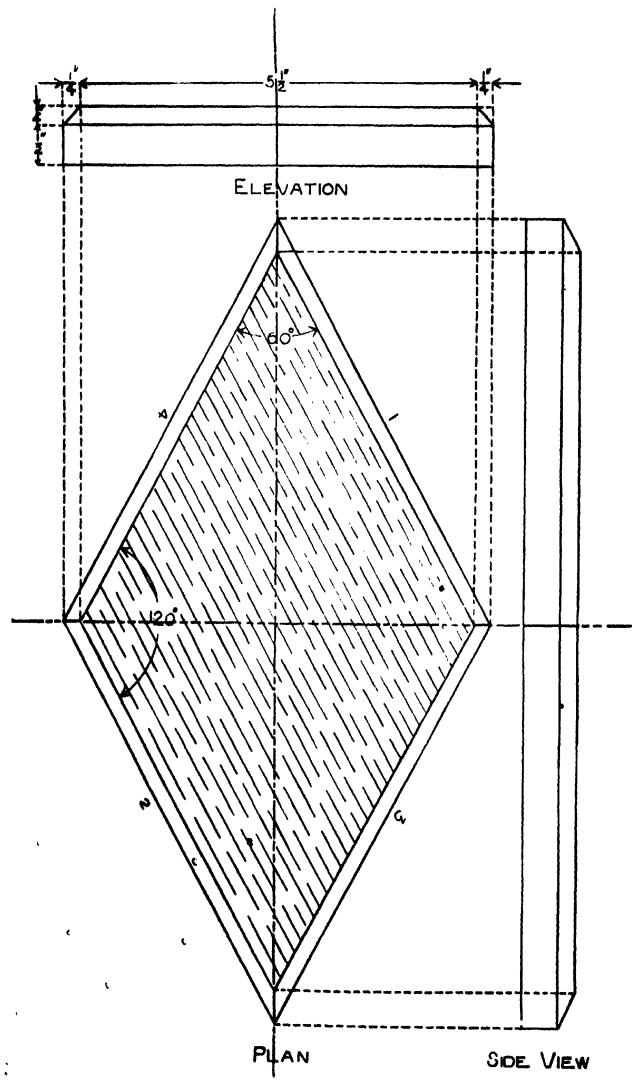

Fig. 61.
Make the working drawings. (Fig. 61).
*To chamfer the two edges parallel to the grain, i.e., edges (1) and (2) of the plan (Fig. 61), use the smoothing plane. Place the wood in the vice, and holding the plane at 45° to the face side (Fig. 66) plane in the*
*To chamfer the two edges across the grain, i.e., edges (3) and (4) of the plan (Fig. 61), place the wood in the vice and remove thin shavings by means of the  $\frac{1}{4}$ " firmer chisel. Fig. 67 shows how the chisel should be*